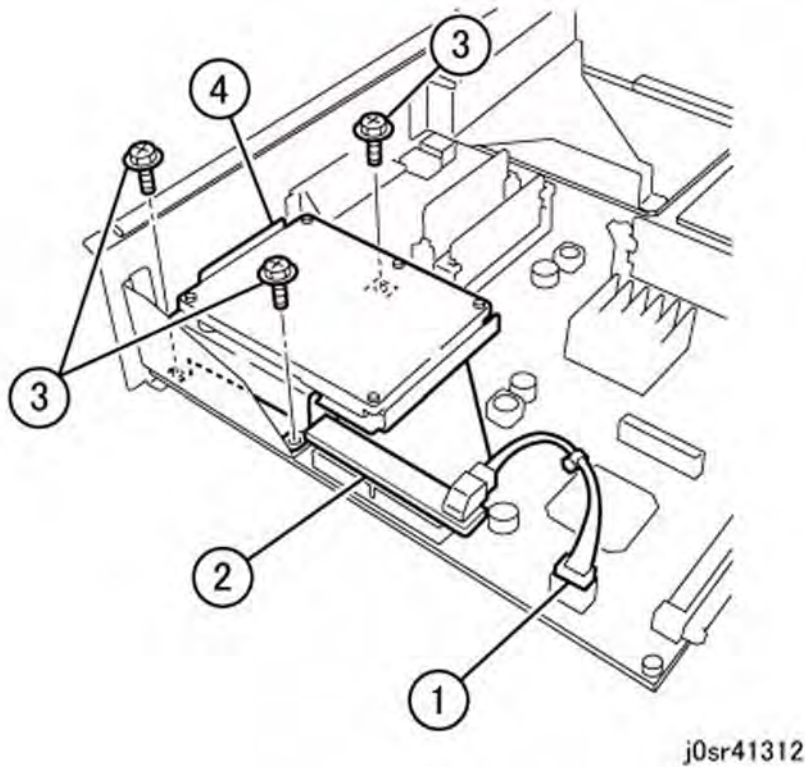

Figure 1 Removing the Hard Drive
2. Remove the Hard Drive Assembly (Figure 1).